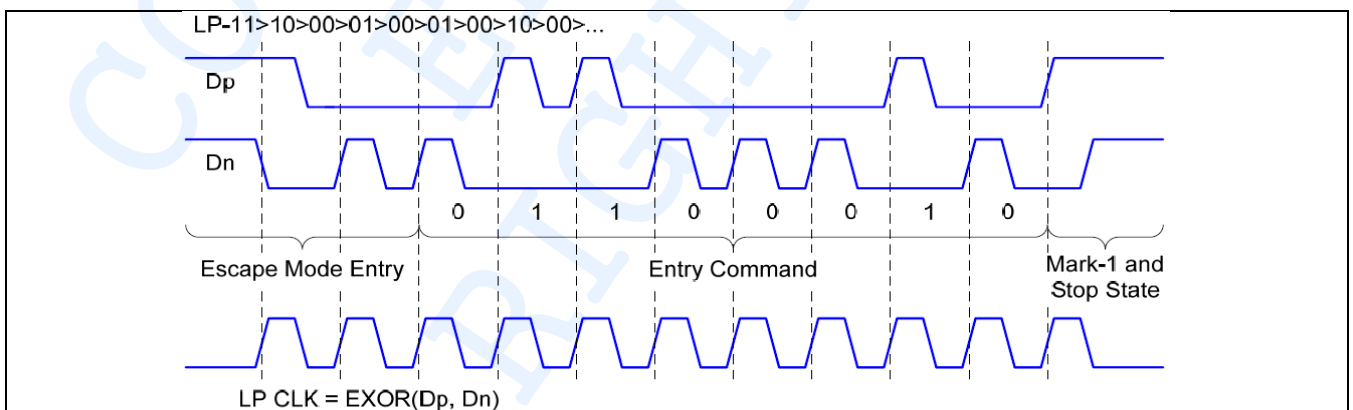

Figure 45 Trigger-Reset Command in Escape Mode
The first byte of any packet is the DI (Data Identifier) byte. Figure 45 shows the composition of the Data Identifier (DI) byte.